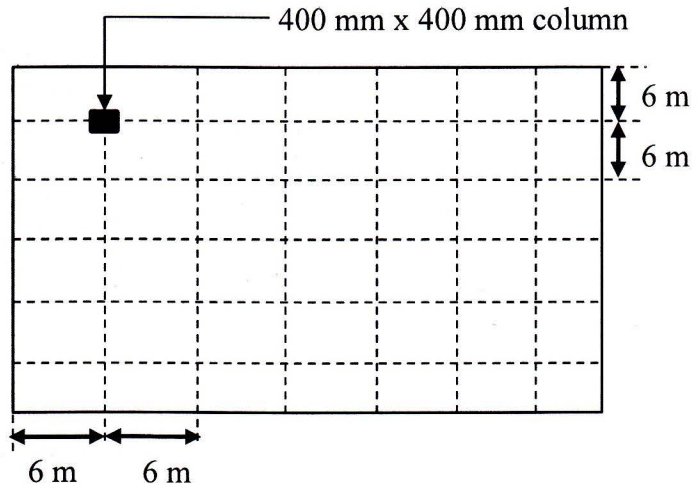

Figure 4: Layout plan of column
- a. The interior column (400 mm x 400 mm) as shown in **Figure 4** of 5-storeyed car park (flat slab structure) is supported by isolated footing. The thickness of flat slab is 250 mm and each floor height is 3.3 m. The live load of car park is 2.5 kN/m² and the bearing capacity of soil is 150 kN/m². Design the footing with optimal depth considering all critical parameters. Assume required data for design. Unit weight of concrete is 24 kN/m³. [10]